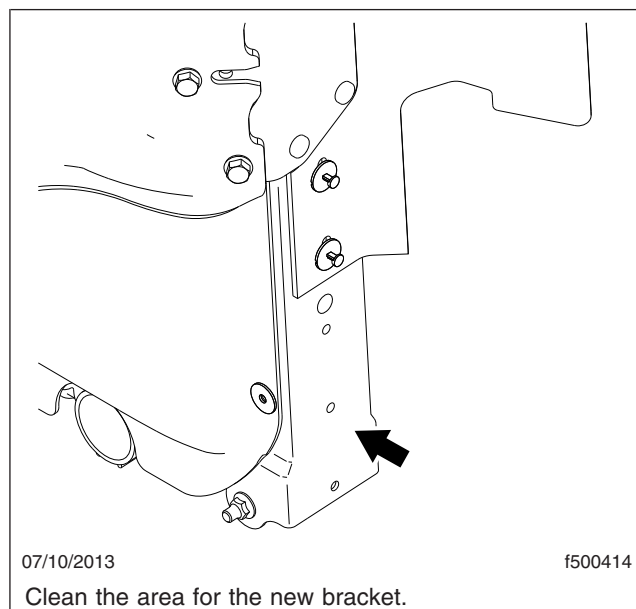

Fig. 3, Cleaning the Side Rail
4. Clean the radiator right-side channel surface as needed. See **Fig. 3**.